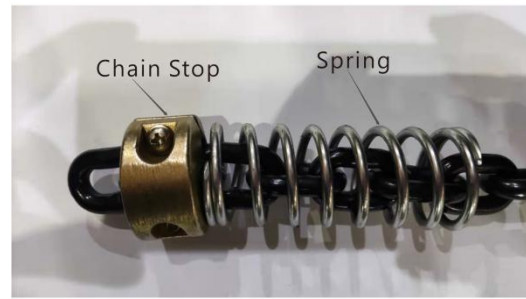

Figure 7
3. On the slack side of the chain, remove the chain stop and the spring (Figure 7). Keep these handy for later re-installing.
3. On the slack side of the chain, remove the chain stop, and remove the black spring(s). (see Figure 7). Keep these handy for later re-installing.
6. Support the load hook so that the load chain can pass through the chain sheaves smoothly. Figure 7 shows the load chain path for the various sizes of hoist.